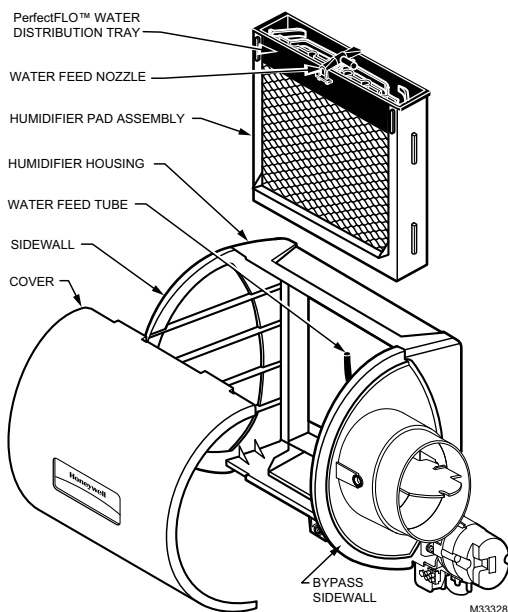

Fig. 18. Cleaning your humidifier.
2. Remove the humidifier cover. See Fig. 18 on page 17.